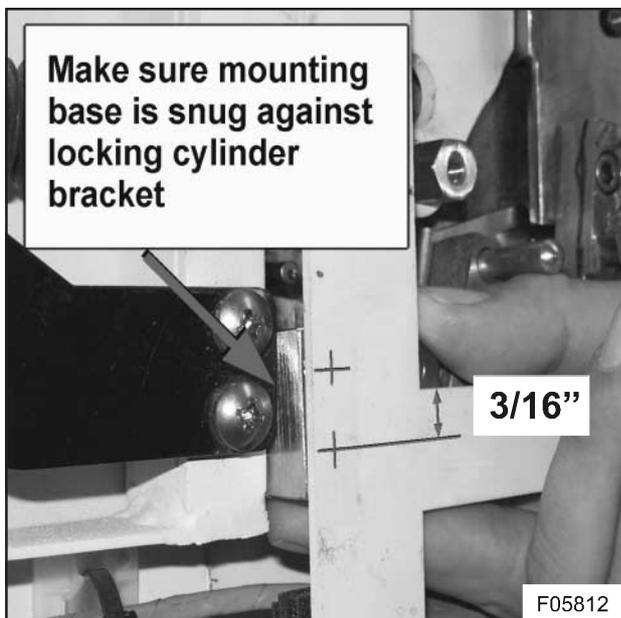

Figure 26: Adapter linkage B installation step 2
- 2) Place the mounting base of adapter linkage B snug against the door lock actuator mounting bracket as shown in Figure 26. Position the base so that the bottom mounting hole is located $\frac{3}{16}$ inch (4,8 mm) from the top edge of the door frame.